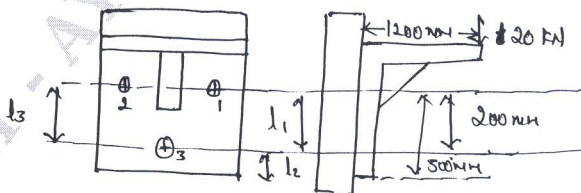

Fig.Q7(b)
- b. Determine the diameter of rivet for a bracket riveted as shown in Fig.Q7(b). The allowable normal and shear stresses are 120 MPa and 60 MPa respectively.